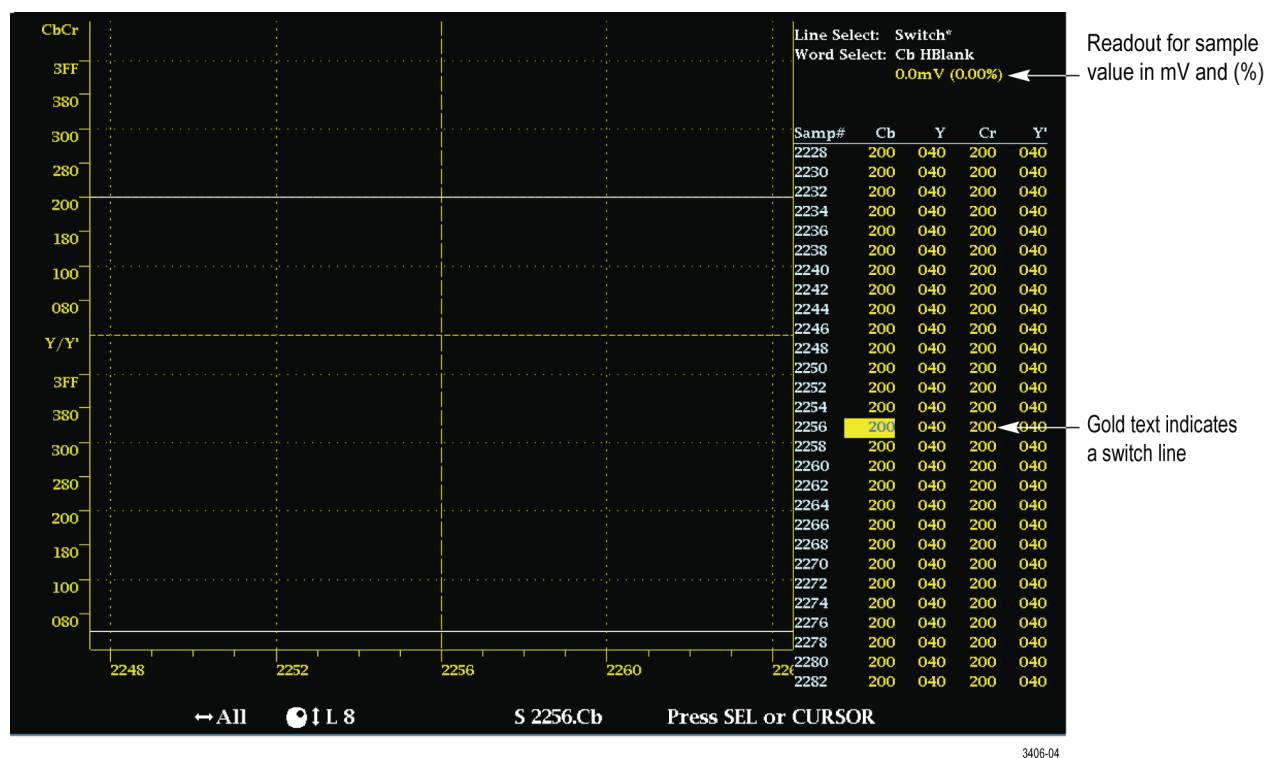

Figure 2: Datalist display with switch line highlighting
Switch line highlighting. New gold highlighting indicates a switch line. (See Figure 2.)
- ANC Data (DC) Data Count
- ANC Data (CS) Checksum
- Sample value shown in millivolts and (%) (See Figure 2.)